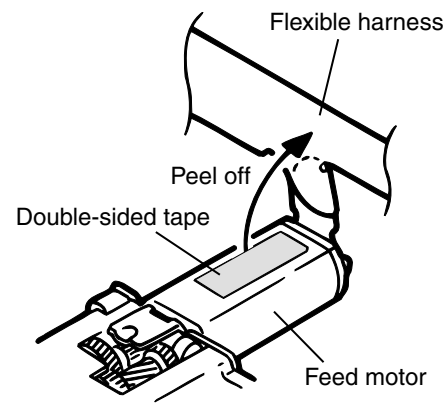

Fig. 15
■ Removing the Feed motor (See Fig.15 and 16)